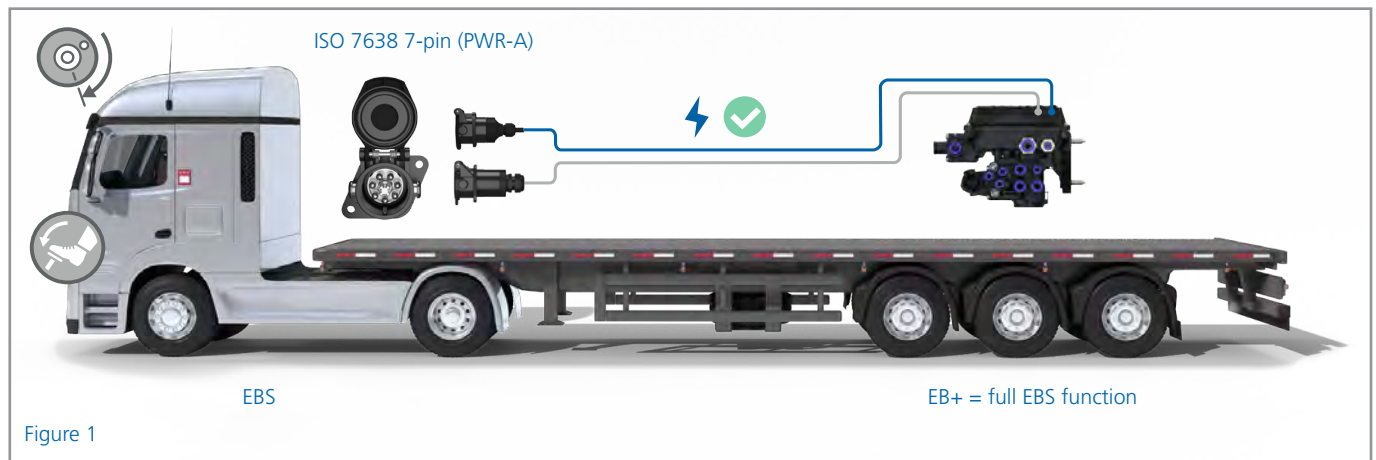

Figure 1
- › ISO 7638 7-pin (PWR-A)- Full EBS function fig 1.